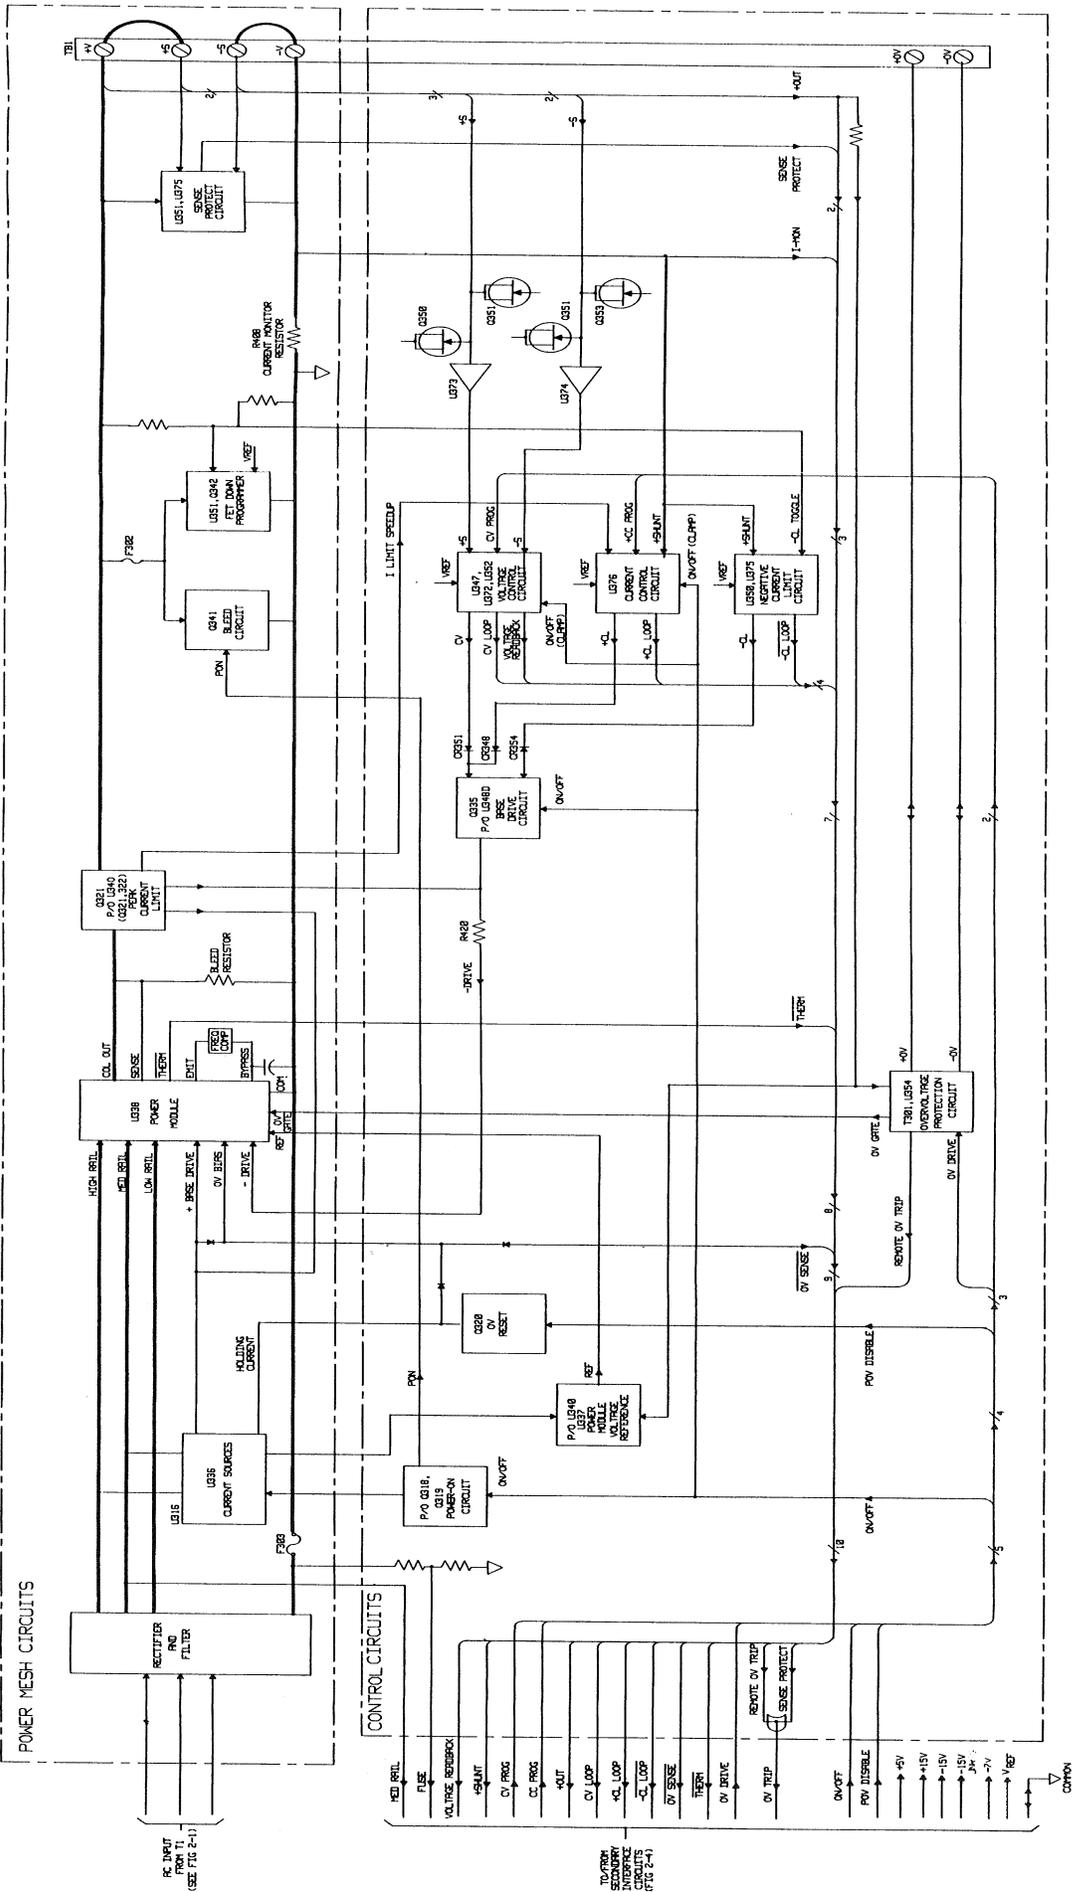

Figure 2-5. Output Board, Power Mesh and Control Circuits, Block Diagram
Status Monitor - this circuit consists of comparators to monitor the control loops, logic to decode these input line, and flip-flops to catch and hold changes. The inputs to the status comparators are the CV LOOP, + CL LOOP, and - CL LOOP signals from the power control circuits (see Figure 2-5). The outputs of the comparators are combined in logic circuits which then go into the set inputs of flip-flops which hold the status of CVO, + CLO, - CLO, and UNREG outputs. UNREG is decoded if the output is not regulated by a CV or CL control loop.
The status monitor circuit also receives OV SENSE and THERM inputs. The THERM signal is received from the power module(s) in the power mesh (see Figure 2-5) and indicates when an overtemperature condition exists. Note that when the microcomputer senses the overtemperature (OT) condition via data bus line D4, it shuts down the output. This circuit resets automatically and restores the output approximately 30 seconds after the temperature drops sufficiently for safe operation.
2-37 Power Mesh and Control Circuits (Figure 2-5)
The power mesh circuit in the upper half of Figure 2-5 converts the AC from the power transformer to regulated DC output power. The primary power control element is the power module hybrid (U338). The power mesh circuit generates a constant voltage or constant current output under control of the control circuits shown in the lower half of Figure 2-5. In addition to controlling the power mesh circuit, the control circuits send measurement and status data back to the GPIB controller and/or front panel via the interface circuits on the output board and the GPIB board.
The current control circuit receives an input from peak current limit circuit (in the current sourcing mode only) as shown in figure 2-5. When the peak current limit circuit (see paragraph 2-42) is activated, it immediately limits the conduction of the series regulators in the power module.